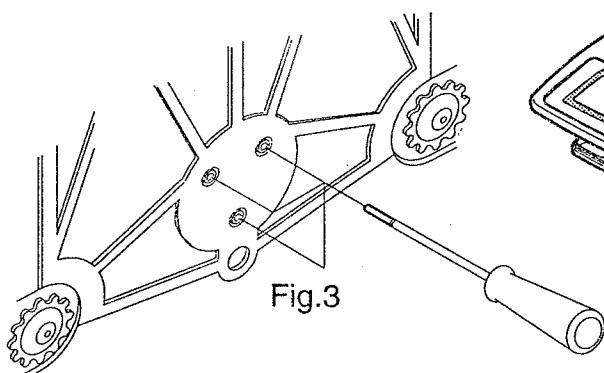

Fig 3
Step 3. Remove the force motor assembly from the lower case. Support the force motor with your hand and remove the three screws shown in the diagram (Fig 3).